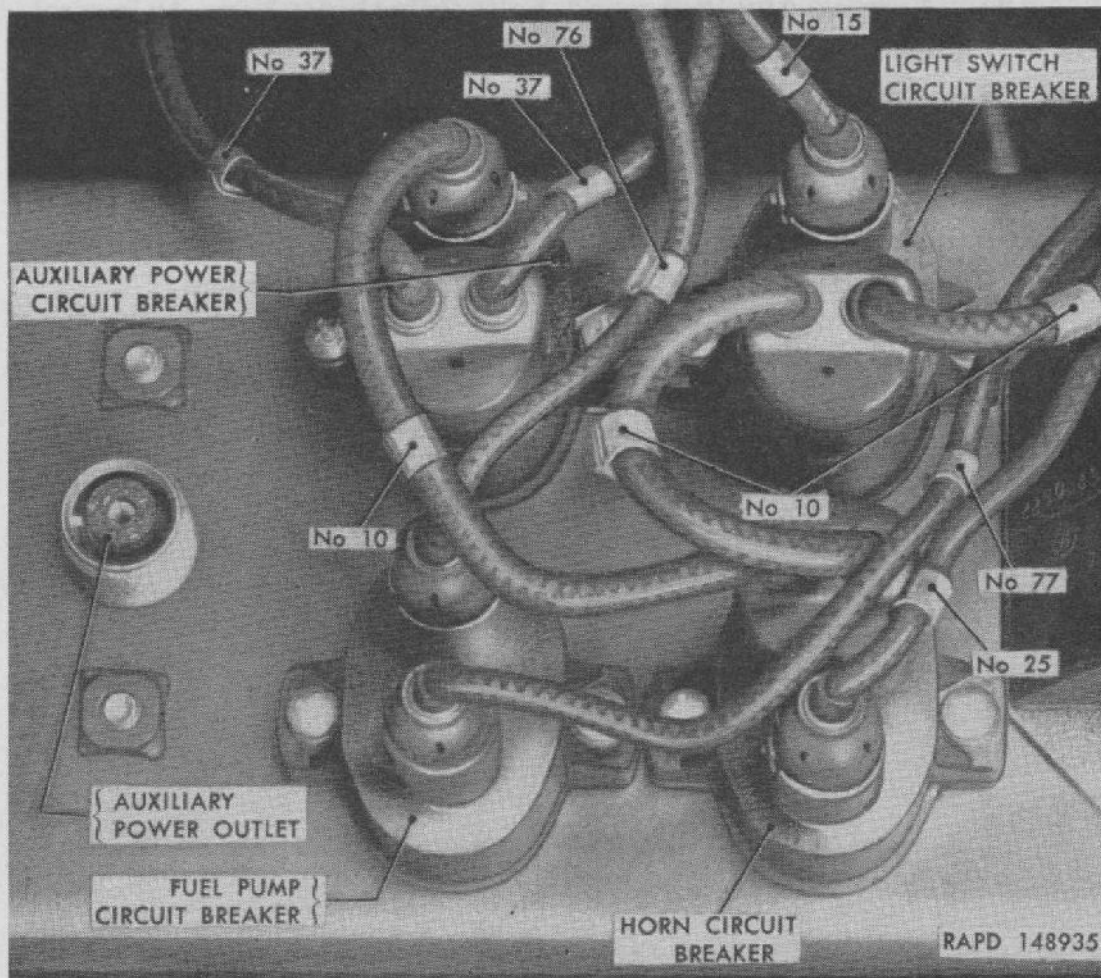
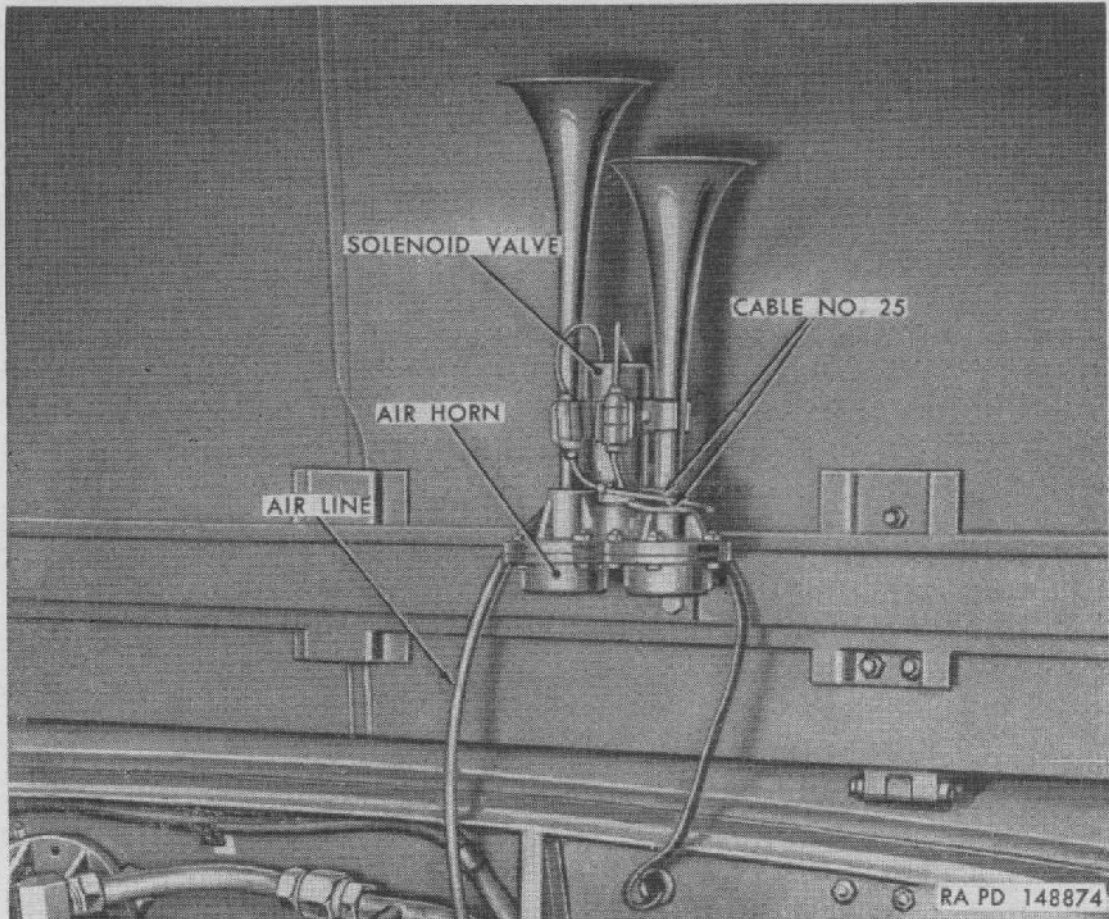
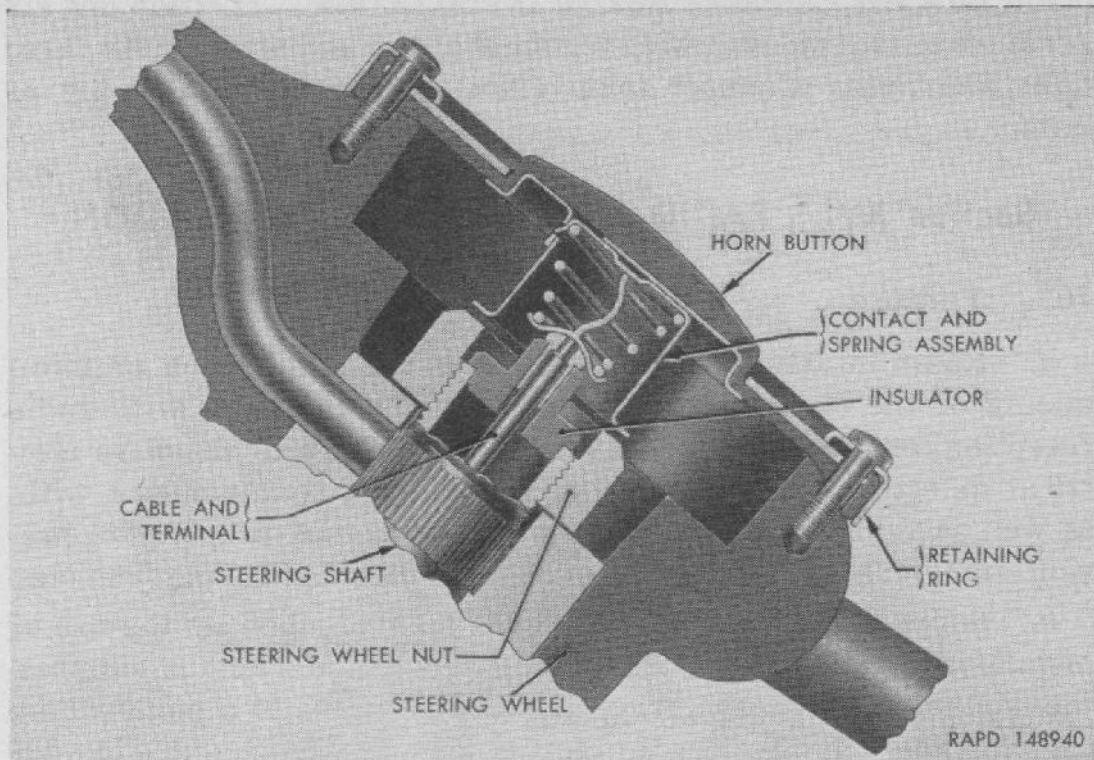

Figure 95. Circuit breakers and auxiliary power outlet installed.
Figure 96. Horn installed.
Figure 97. Horn button and contact installed.
d. CIRCUIT BREAKERS. Four automatic reset type circuit breakers are used in the electrical system, protecting the fuel pump, light, horn, and auxiliary power circuits. Circuit breakers are mounted on under side of steering column brace (fig. 95). Connections at all circuit breakers are made through bayonet type connectors.
a. **GENERAL.** Four automatic reset type circuit breakers are used in electrical system; protecting the fuel pump, light, horn, and auxiliary power circuits. Circuit breakers are mounted on under side of steering column brace (fig. 95). All connections at circuit breakers are made through bayonet type connectors.
b. **CIRCUIT BREAKER REMOVAL** (fig. 95). Disconnect wiring harness cable connectors from circuit breaker terminals. Remove two screws, nuts, and lock washers attaching circuit breaker to steering column brace and remove circuit breaker.
c. **CIRCUIT BREAKER INSTALLATION** (fig. 95). Position circuit breaker on steering column brace and attach with two screws, lock washers, and nuts. Connect wiring harness cables to circuit breaker terminals, referring to figure 95 for identification of cables connecting to each circuit breaker.
a. GENERAL. Electrically - controlled, air - operated horn is mounted on under side of hood brace above engine (fig. 96). Horn is accessible with hood in raised position (par. 36). Flexible air line from junction fitting at engine side of dash connects to air inlet at horn operating solenoid. When circuit through solenoid is completed by the horn button in center of steering wheel (fig. 97), solenoid admits air pressure into the vibrating diaphragm type horn, causing horn to sound. Wiring connections at horn are made through bayonet type connectors; connectors are secured in clips attached to horn solenoid clamp. Horn circuit is protected by a 15 amp circuit breaker mounted on steering column brace (fig. 95).
b. HORN REMOVAL (fig. 96).
- (1) Disengage wiring harness from clip on horn mounting bracket. Disengage cable connectors from clips on horn solenoid bracket and disconnect cables.
- (2) Remove two nuts and bolts attaching horn to mounting bracket then disconnect air line from horn solenoid.
- c. HORN INSTALLATION (fig. 96).
- (1) Coat threads of air line fitting with plastic type gasket cement and connect air line to horn solenoid. Install horn on mounting bracket and attach with two bolts and nuts. Install harness clip under one bolt head.
- (2) Connect harness cables (No. 25) to horn solenoid cables, then engage connectors in clips on horn solenoid clamp. Secure wiring harness in clip on horn bracket.
- d. HORN BUTTON REMOVAL (fig. 97). Remove four screws attaching horn button retaining ring to steering wheel. Remove retaining ring, horn button, and contact and spring assembly.
- e. HORN BUTTON INSTALLATION (fig. 97). Make sure end of contact and terminal on end of steering shaft are clean. Position contact and spring assembly on steering shaft nut, install horn button and retaining ring, and attach retaining ring to steering wheel with four screws.